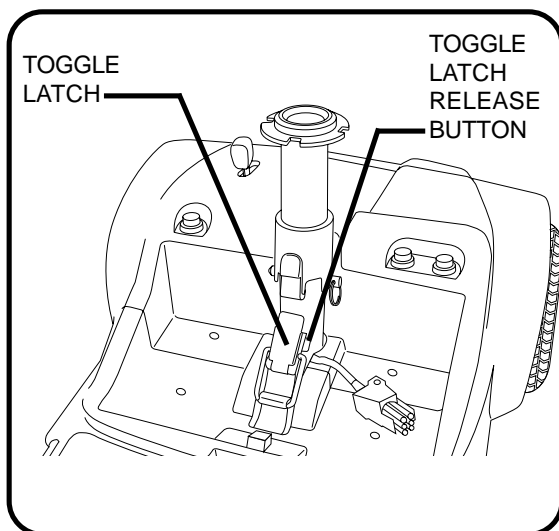

Figure 15. Toggle Latch (Latched)
1. Push in the toggle latch release button while pulling forward on the toggle latch. **See figure 15.**
5. Secure the toggle latch. **See figure 15.**